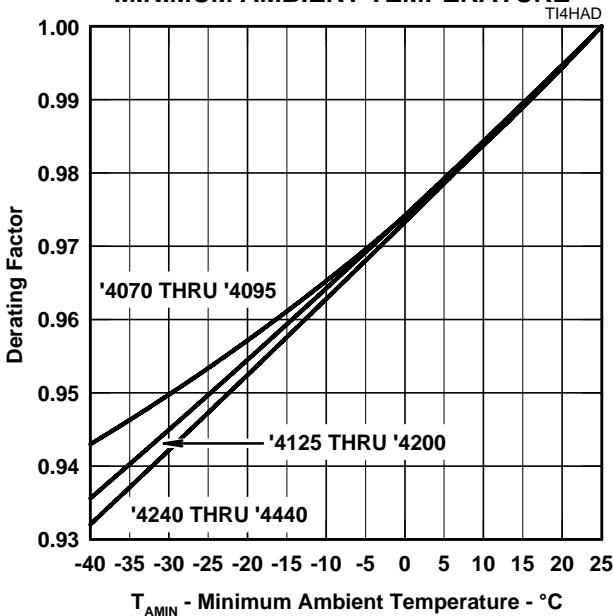

Figure 10.
- NOTES: 1. See Applications Information and Figure 10 for voltage values at lower temperatures.
Figure 10 allows the calculation of the protector  $V_{DRM}$  value at temperatures below 25 °C. The calculated value should not be less than the maximum normal system voltages. The TISP4265H3BJ, with a  $V_{DRM}$  of 200 V, can be used for the protection of ring generators producing 100 V rms of ring on a battery voltage of -58 V (Th2 and Th3 in Figure 17). The peak ring voltage will be  $58 + 1.414 \cdot 100 = 199.4$  V. However, this is the open circuit voltage and the connection of the line and its equipment will reduce the peak voltage. In the extreme case of an unconnected line, clipping the peak voltage to 190 V should not activate the ring trip. This level of clipping would occur at the temperature when the  $V_{DRM}$  has reduced to  $190/200 = 0.95$  of its 25 °C value. Figure 10 shows that this condition will occur at an ambient temperature of -22 °C. In this example, the TISP4265H3BJ will allow normal equipment operation provided that the minimum expected ambient temperature does not fall below -22 °C.